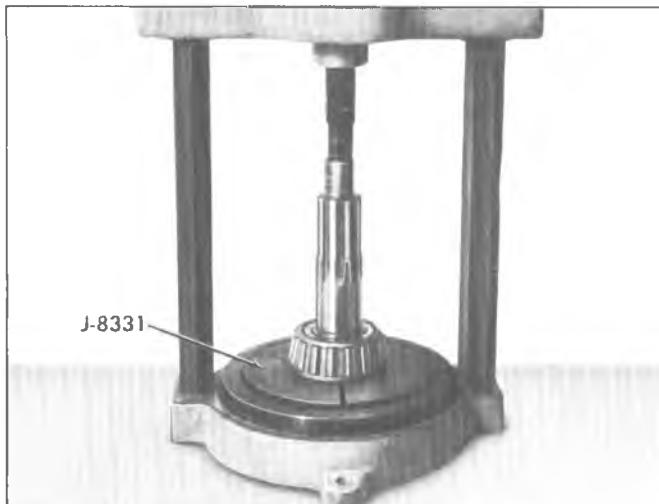

Fig. 7D-Removing Rear Output Shaft Front Bearing
9. Using press plates J-8331, remove front bearing from the shaft as shown in Figure 7D.